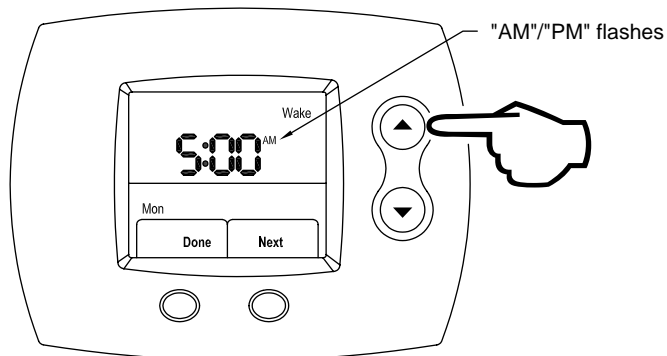

Figure 52
Step 5: Using the **UP** (index AM / PM) or **DOWN** (index AM / PM) buttons, select AM / PM, as shown in Figure 52.